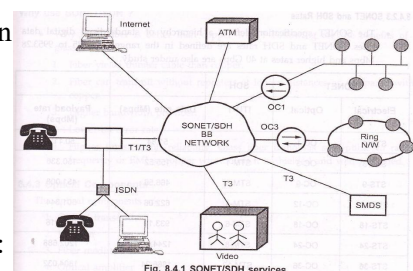

Fig. 8.4.1 SONET/SDH services
- Fig. 8.4.1 shows SONET/SDH network services. (Refer Fig. 8.4.1 on next page).